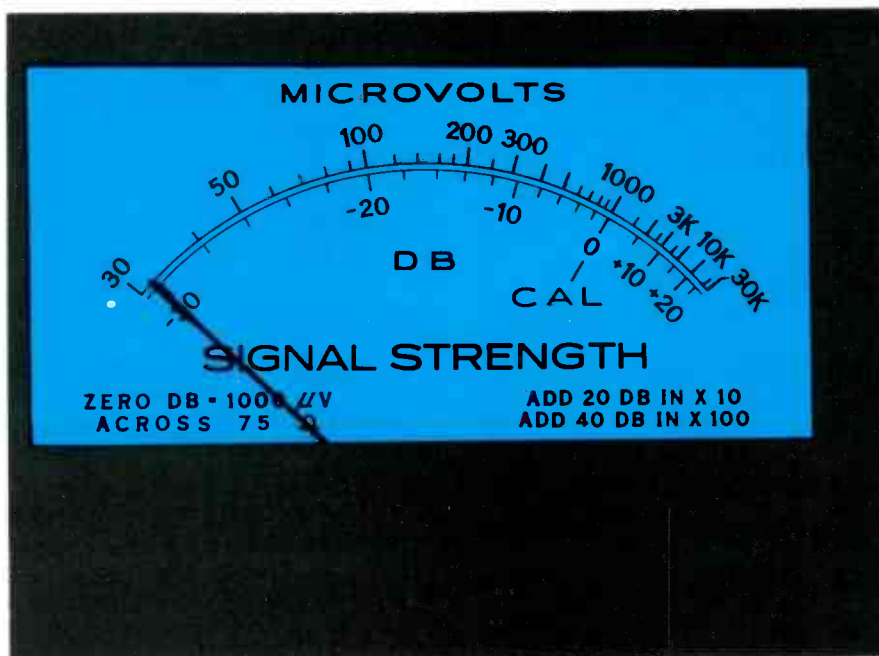

Fig. 1 These are typical calibrations in both dB's and microvolts found on the face of a field-strength meter.
(C) This picture shows the take-up idler which was not included in Fig. 1.
As a result, decibels do not express this change in the strength of the signal in a linear fashion. For example, a signal of 40 dB is not twice the voltage of a signal of 20 dB. Notice the relationships between voltage and decibels shown by the dual calibration of the meter scale in Fig. 1.
Fig. 1 These scope waveforms show how two sine waves of different frequency can begin in-phase, gradually become out-of-phase, and after a definite time period, become in-phase again.
Therefore, a rainbow of color is produced when the frequencies of the color oscillator and the simulated-chroma signal are selected so the relative phase between them changes 360 degrees during each cycle of horizontal sweep. Figure 1 shows how the phase of two sine waves can change from in-phase, to out-of-phase, and back in-phase again when their frequencies are not the same.